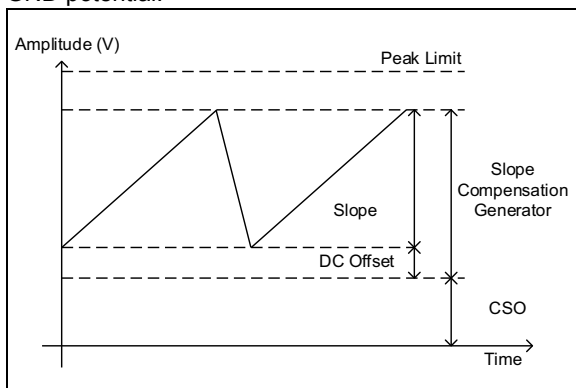
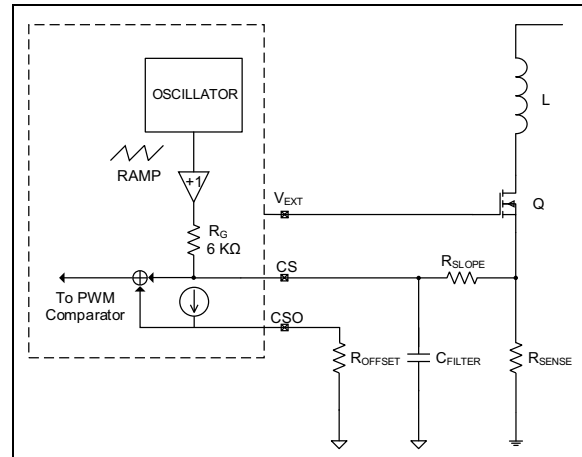

FIGURE 4-2: Slope Compensation Signal.
FIGURE 4-3: Slope Compensation Circuit.
The error amplifier is of transconductance type (OTA) with external compensation network connected between the output (COMP) and the ground. The error amplifier generates an error signal proportional to the difference between the LED current sense feedback voltage and V_{REF} input voltage. The error amplifier output is clamped by a precision 2.7V internal voltage source. The output of the error amplifier is connected to the inverting input of the high-speed comparator. As the output load current demand increases, the error amplifier output increases too, causing the inverting input pin of the high-speed comparator to increase. Eventually, the output of the error amplifier will hit the clamp, limiting the input of the high-speed comparator to 2.7V maximum. Even if the FB input continues to decrease, calling for more current, the inverting input is limited to 2.7V. By limiting the inverting input to 2.7V, the current sense (IP) input is limited to 2.7V minus DC offset value (CSO), thus limiting the current that flows in the main switch. Limiting the maximum peak current in the switch prevents the destruction of the semiconductor device and the saturation of the inductor during overloads. To simplify the design when CS signal is too small so peak limit is far away, there is another feature called I peak offset (CSO). This DC value is added over current sense information to avoid output overloads. Refer to Figure 4-2 and Figure 4-3 for a detailed description. The error amplifier input includes only the GND potential.